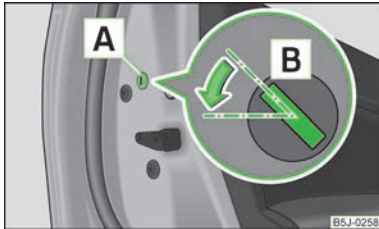

Fig. 14
- Remove the panel **A** » Fig. 14.